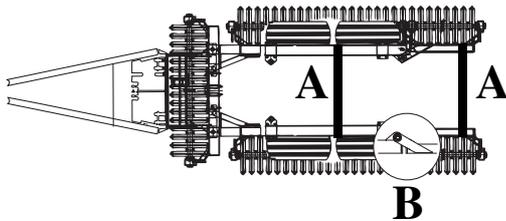

Figure 1.13
- 1 Set the machine to the transport position; see “3.2 Resetting to transport mode, items 1-6.” on page 19.
- 2 Secure the wing sections ready for transport using tension straps (A) or similar; see “Figure 1.13”. Machines with an extended outer section must be secured on both sides of the pivot point (B).